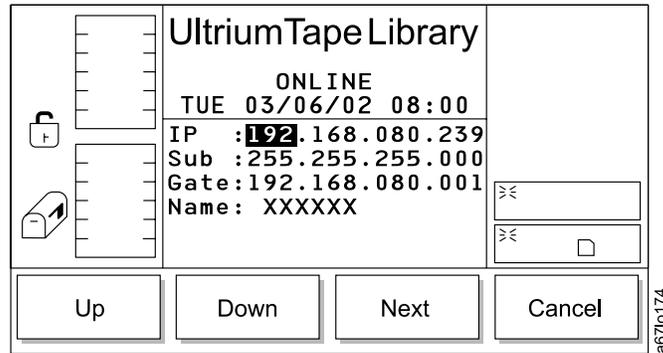
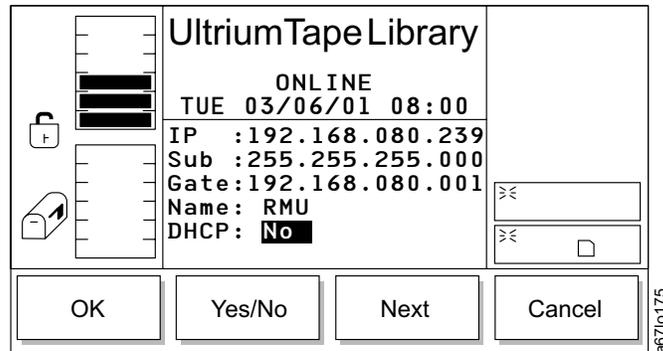

Figure 2. RMU Dialog
Figure 3. DHCP Dialog
3. Press the following push buttons: **Main Menu (initial screen) Setup → Library → RMU**. The RMU dialog displays (see Figure 2).
4. Use the push buttons below the **Up** or **Down** softkeys to enter the IP address, subnet address, gateway, and name, similar to the example values shown in Figure 2. Press the button below the **Next** softkey to accept the current field and advance to the next field. If the next field is DHCP (dynamic host configuration protocol) see Figure 3.